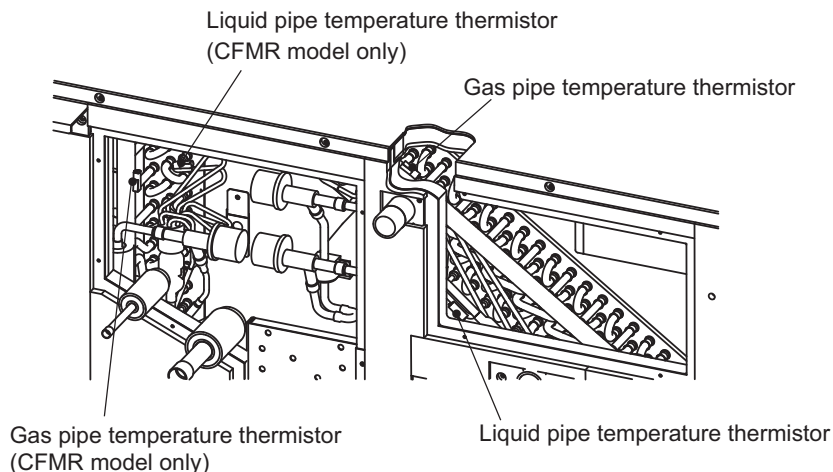

Fig.8
7. To remove the pipe thermistor (Fig.8)